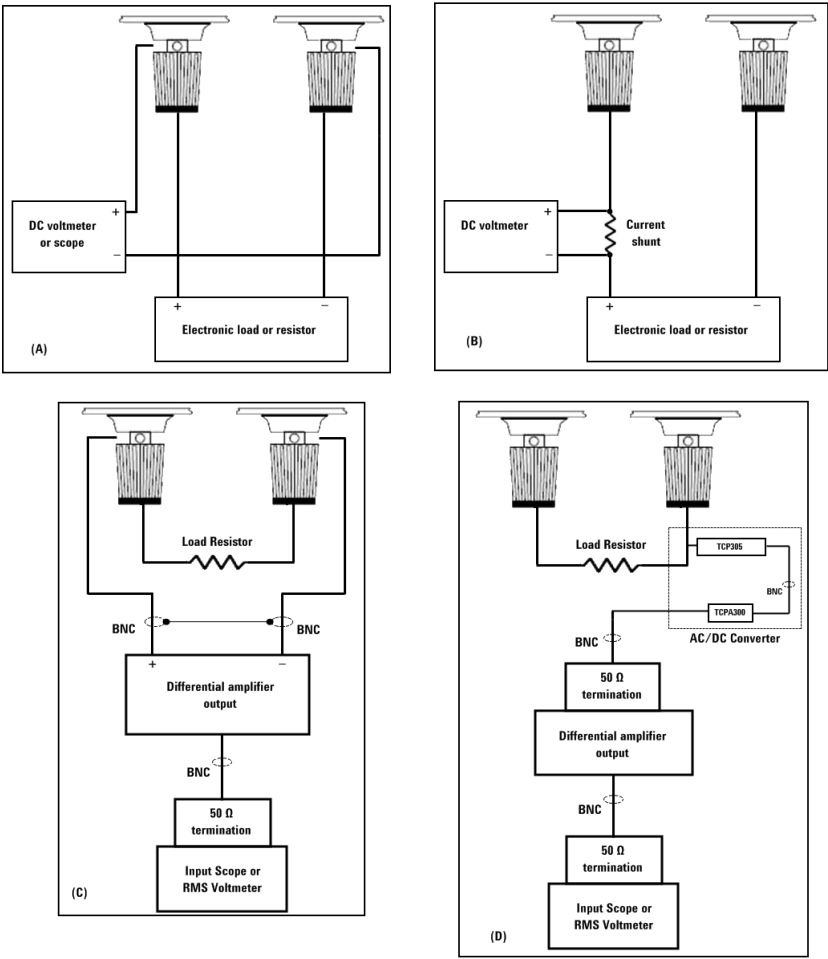

Figure 5-2 Test Setups
- 1 Power-off the power supply and connect a DMM between the (+) and (-) terminals of the output to be tested as shown in Figure 5-2\(A\).
- 1** Power off the power supply and connect the output to be tested as shown in Figure 5-2\(A\) with an oscilloscope. Operate the electronic load in constant current mode.